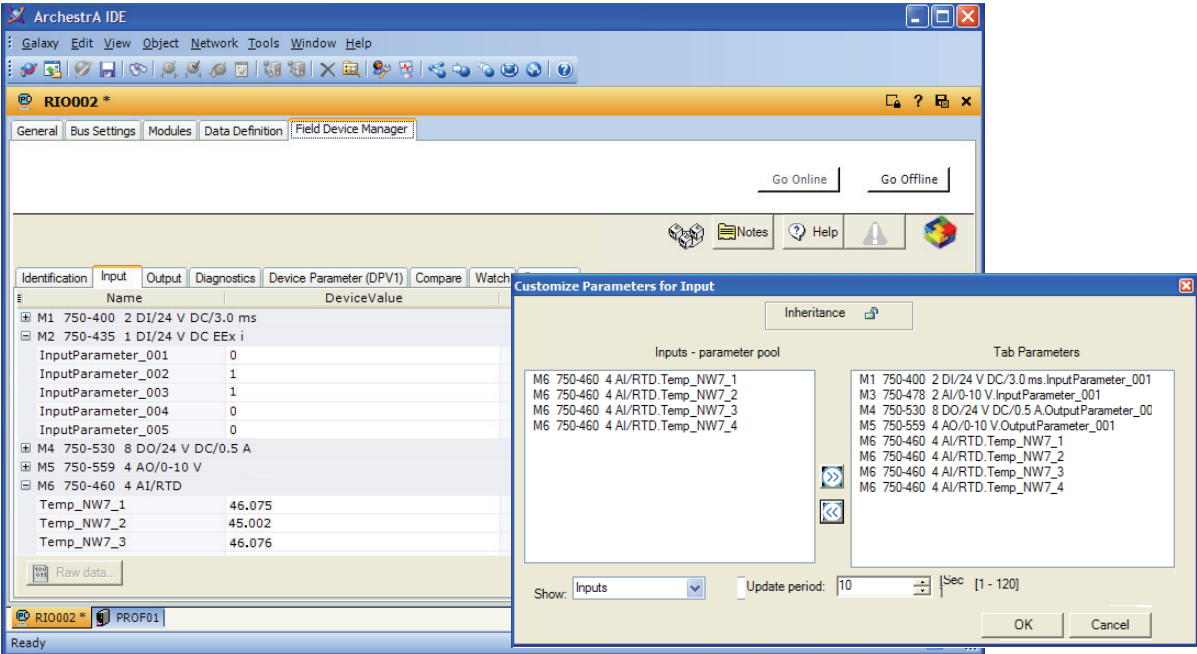

Figure 8. Selecting Input Parameters for Online Display in Field Device Manager
- Input tab (Figure 8) and Output tab provide real-time displays of the parameters defined in the Data Definition tab (or the Vendor DTM if the parameters were configured with the device manufacturer's DTM).